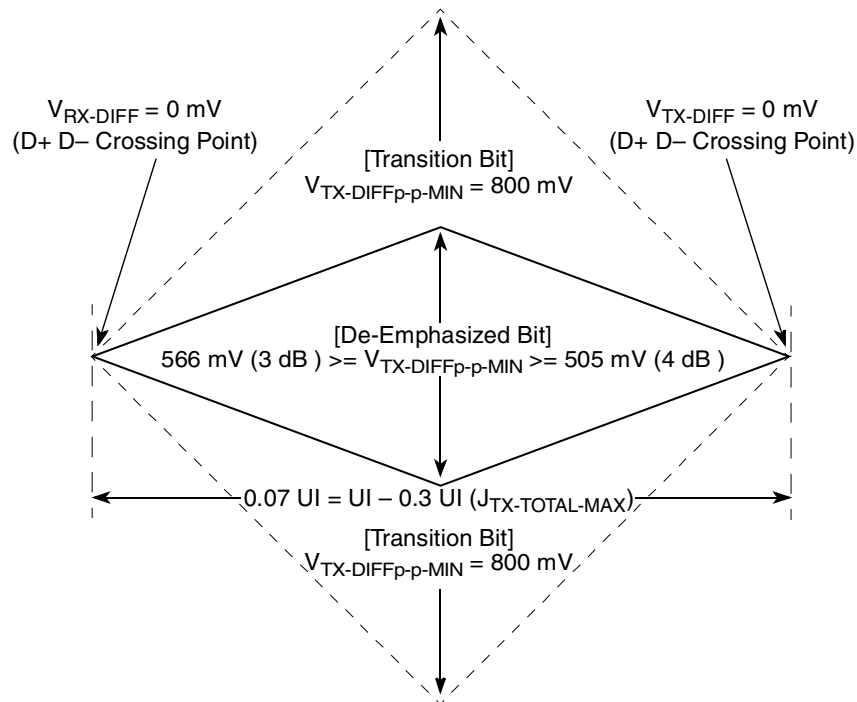
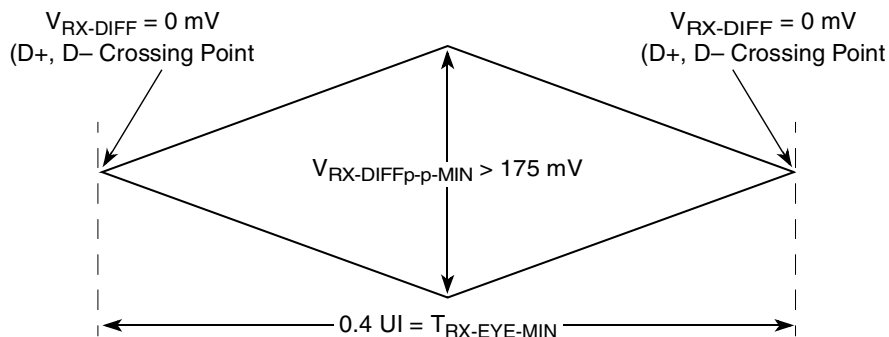
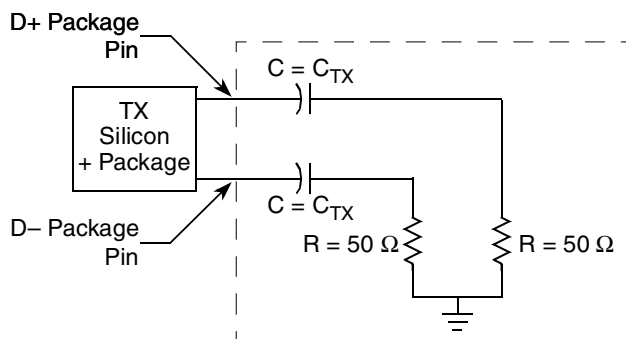

Figure 69. Minimum Transmitter Timing and Voltage Output Compliance Specifications
Figure 70. Minimum Receiver Eye Timing and Voltage Compliance Specification
Figure 71. Compliance Test/Measurement Load
The TX eye diagram in Figure 69 is specified using the passive compliance/test measurement load (see Figure 71) in place of any real PCI Express interconnect + RX component.
2. Specified at the measurement point and measured over any 250 consecutive UIs. The test load in Figure 71 should be used as the RX device when taking measurements (also refer to the Receiver compliance eye diagram shown in Figure 70). If the clocks to the RX and TX are not derived from the same reference clock, the TX UI recovered from 3500 consecutive UI must be used as a reference for the eye diagram.
4. The Receiver input impedance shall result in a differential return loss greater than or equal to 15 dB with the D+ line biased to 300 mV and the D- line biased to -300 mV and a common mode return loss greater than or equal to 6 dB (no bias required) over a frequency range of 50 MHz to 1.25 GHz. This input impedance requirement applies to all valid input levels. The reference impedance for return loss measurements for is 50 ohms to ground for both the D+ and D- line (that is, as measured by a Vector Network Analyzer with 50 ohm probes - see Figure 71). Note: that the series capacitors CTX is optional for the return loss measurement.
The RX eye diagram in Figure 70 is specified using the passive compliance/test measurement load (see Figure 71) in place of any real PCI Express RX component.
Note: In general, the minimum Receiver eye diagram measured with the compliance/test measurement load (see Figure 71) will be larger than the minimum Receiver eye diagram measured over a range of systems at the input Receiver of any real PCI Express component. The degraded eye diagram at the input Receiver is due to traces internal to the package as well as silicon parasitic characteristics which cause the real PCI Express component to vary in impedance from the compliance/test measurement load. The input Receiver eye diagram is implementation specific and is not specified. RX component designer should provide additional margin to adequately compensate for the degraded minimum Receiver eye diagram (shown in Figure 70) expected at the input Receiver based on some adequate combination of system simulations and the Return Loss measured looking into the RX package and silicon. The RX eye diagram must be aligned in time using the jitter median to locate the center of the eye diagram.
The reference impedance for return loss measurements is 50. to ground for both the D+ and D- line (that is, as measured by a Vector Network Analyzer with 50. probes—see Figure 71). Note that the series capacitors, C_{TX}, are optional for the return loss measurement.